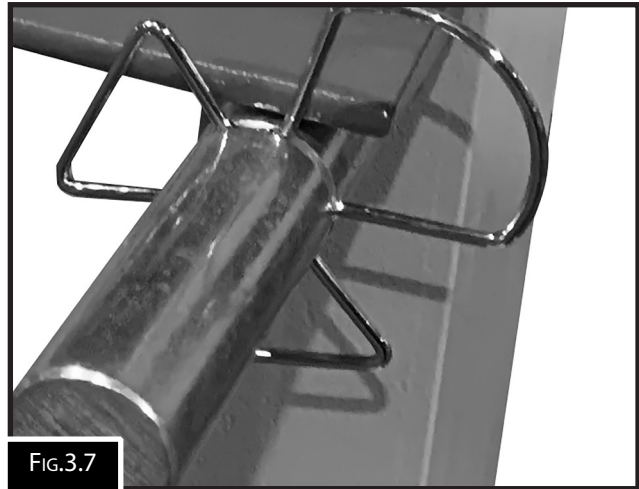

FIG.3.7
8. Make sure that the support pins have been secured with the safety clips supplied for each end of the support pins. (Fig.3.7)